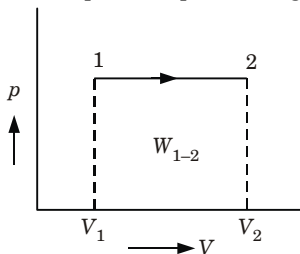

Fig. 1.19.1. Constant pressure process.
1. Constant pressure process (Fig. 1.19.1) (isobaric or isopiestic process)